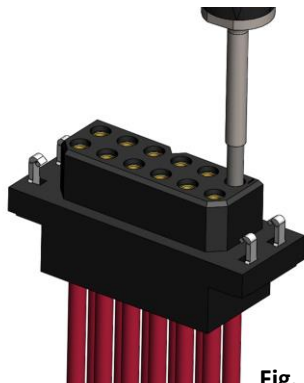

Fig. 1
- B. When testing sockets, place the tool on the top edge of the socket contact (Fig. 1)